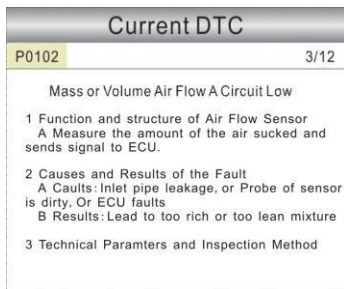

Figure 5-11
If the DTC is defined by the manufacturer, a screen similar to Figure 5-11 will appear. In this case, press **[OK]** to select the manufacturer from the list and the screen will show the detailed content of the trouble code.
**Some DTC have the tips guide, it is the next page of Figure 5-11. It shows the structures of sensor, the cause and Results of Fault and give you the parameters and inspection method.**